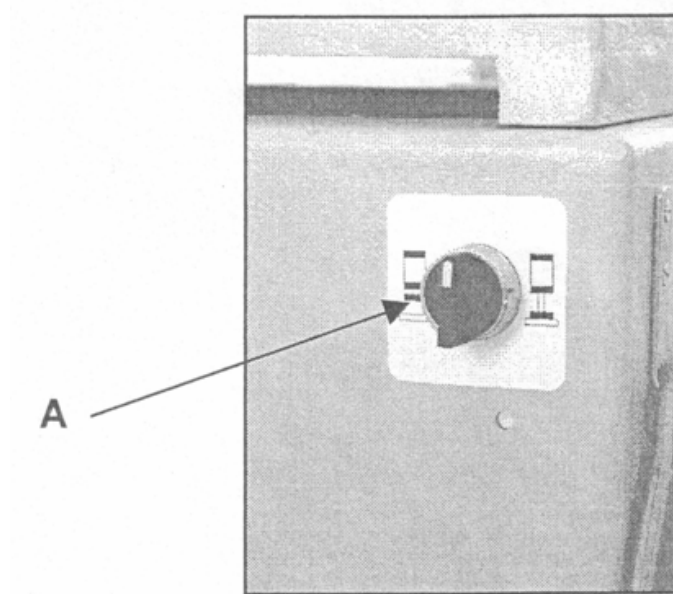

Fig. 3
2. Activate the locking of the pneumatic clamps through the selector placed on the front side of the machine (Fig. 3 part. A).